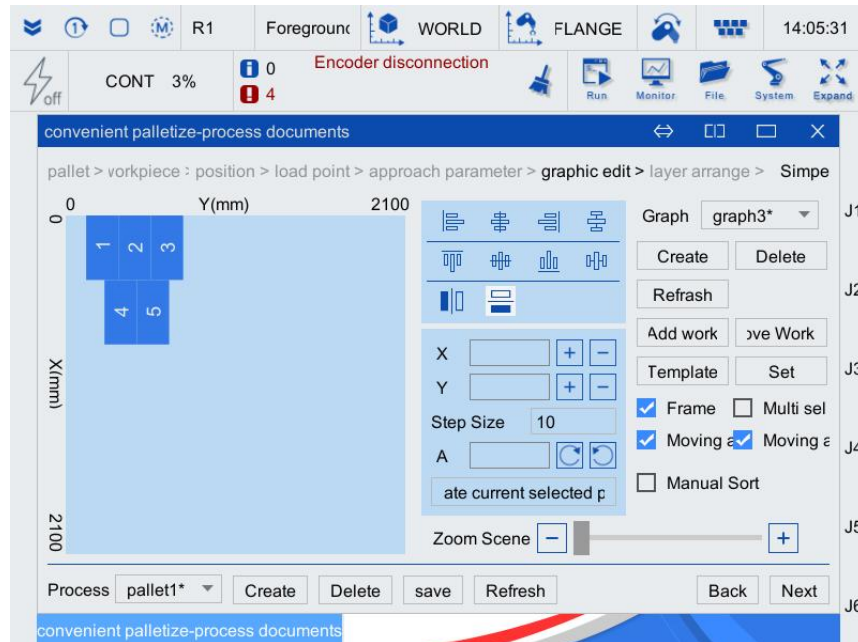

Figure 3-36 Interface for adding workpieces 4 ~ 5 by pressing seam
Step12. Drag the workpieces with the stylus to make the arrangement of workpieces as shown in Figure 3-36